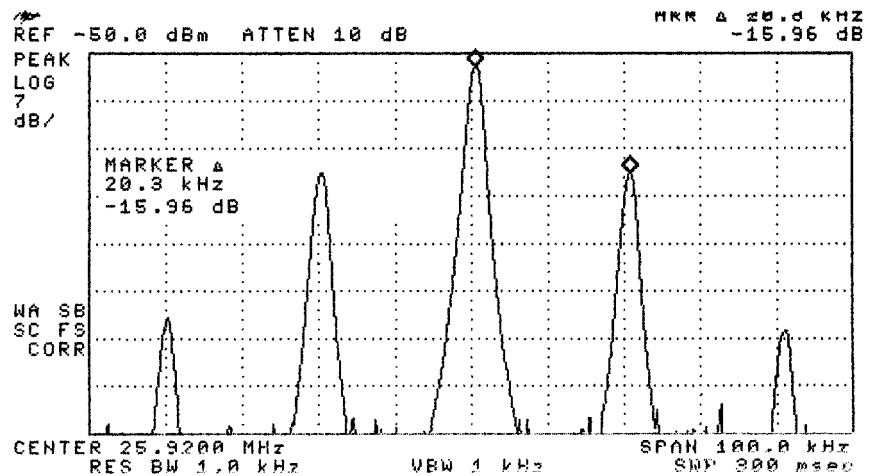

Figure 3-10 Carrier to Sideband Ratio Example
- 34 Adjust the OmniBER's jitter amplitude (approximately 7.52 UI) until the 4th **Bessel Null** is observed on the Spectrum Analyzer i.e 4th dip in the carrier level (see Figure 3-10). For OC-1, STS-3/OC-3 use 7.52 4th null, OC-12 use 11.52 UI, 6th null. For OC-48 use 9.52 UI, 5th null.